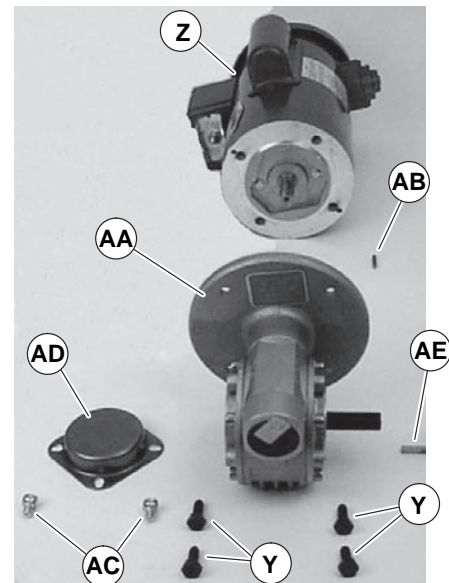

Figure 22
5. Remove four screws (Figure 22, item Y). Detach motor (Z) from gear reducer (AA). Retain motor output shaft key (AB).
11. With key (Figure 22, item J) in keyway, slide motor (Z) and gear reducer (AA) together. Install screws (Y) and tighten.